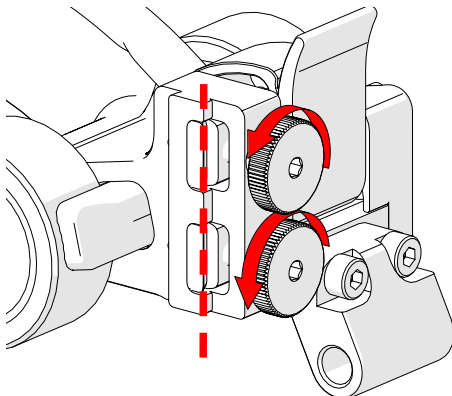

Fig. 39 - Loosen dovetail jaws
1. Rotate the two knobs at the front of the low profile link to align the dovetail jaws (*Fig. 39*).